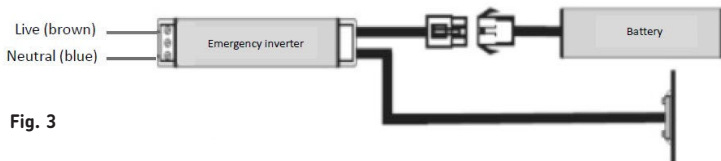

Fig. 3
- Connect the luminaire to the mains supply via a suitable junction box (not supplied) ensuring the correct polarity is observed: L - Live (brown), N - Neutral (blue) (see Fig. 3)